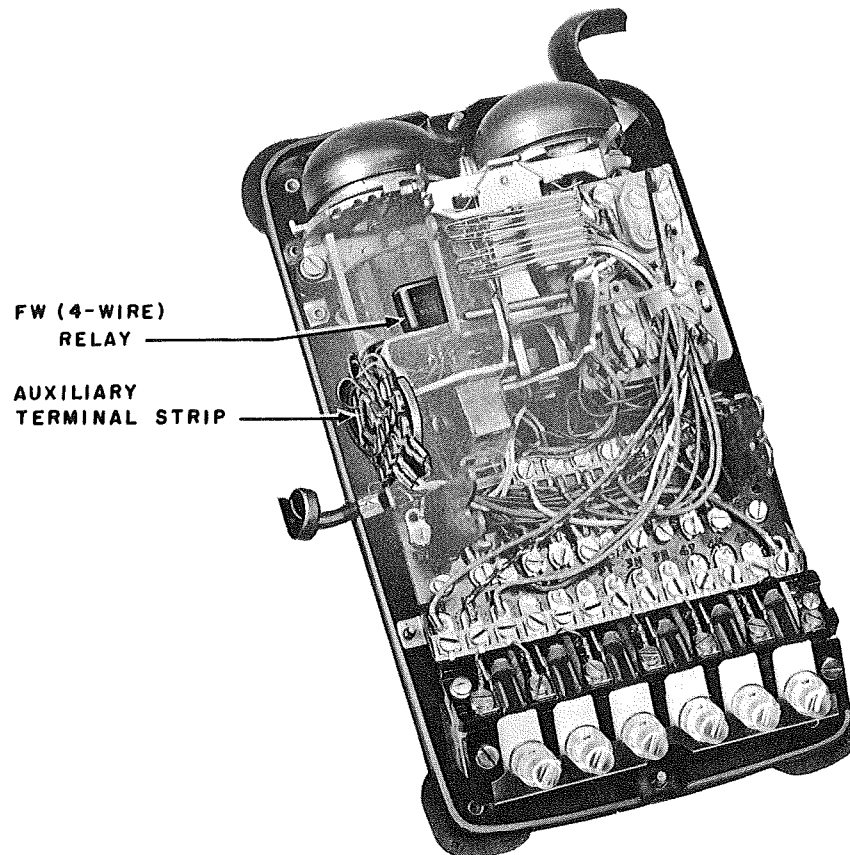

Fig. 4 - Base of 568-Type Set, Dial Removed
2.08 When 568-type sets are connected to a 4-wire line, the FW (4-wire) relay (see Fig. 4 and 5) operates and disconnects the receiver from the 425E network. A repeating coil in the associated line circuit matches the receiver to the receiving loop to obtain a true 4-wire termination. The